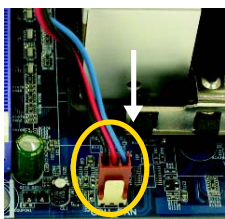

Figure 7. Connecting the Fan Power Wires
Step 1-4. Connect the fan power wires to the header on the motherboard as shown in Figure 7.